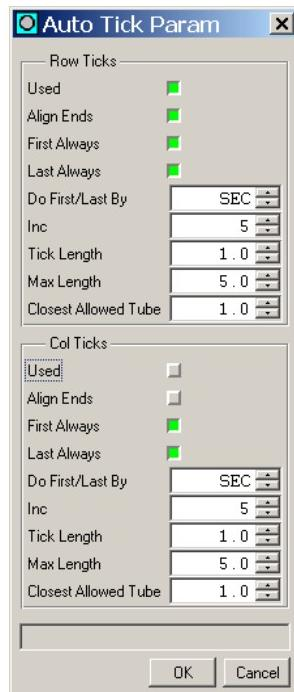

Figure 63. Auto Tick Param Dialog
- STEP 8 :** In the **Col Ticks** section of the **Auto Tick Param** dialog, disable (gray) **Used**. The remaining settings in this section may be disregarded. The **Auto Tick Param** dialog should now look like Figure 63.